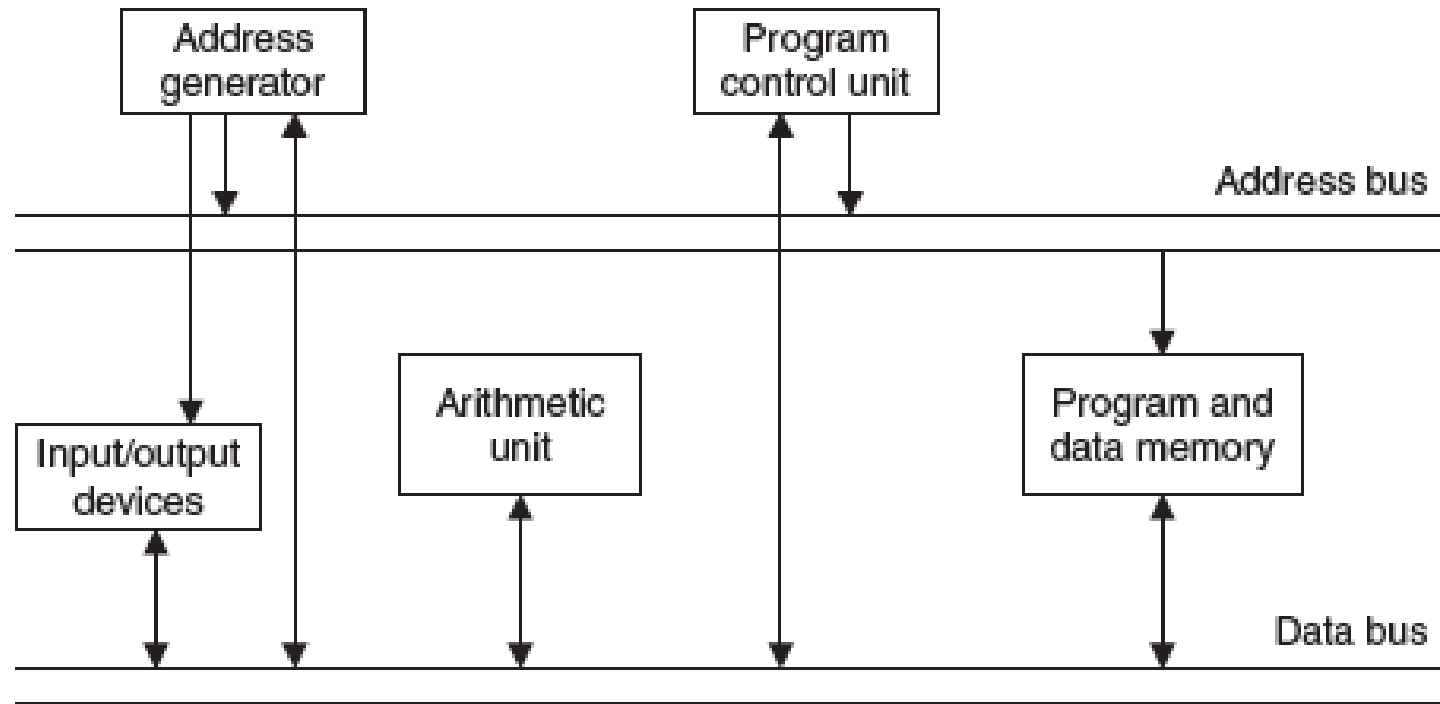

FIGURE 9.1 General microprocessor based on Von Neumann architecture.
- As shown in Figure 9.1, a Von Neumann processor contains a single, shared memory for programs and data, a single bus for memory access, an arithmetic unit, and a program control unit.